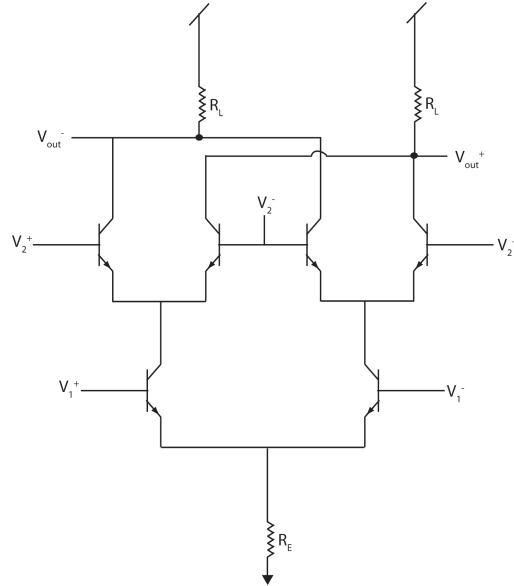

Figure 3: Circuit diagram of the Gilbert Multiplier
Now that we have the oscillator our next job is to multiply them. These multipliers are generally termed mixers. One can build mixers from diodes or transistors. We will build a transistor mixer called a Gilbert cell shown in figure 3,
1. Calculate the differential output voltage of the simple Gilbert cell shown in figure 3.